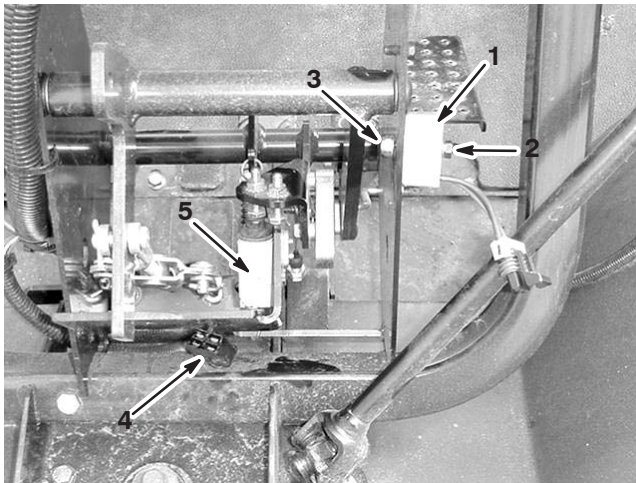

Figure 1
1. Secure the key start module to the pedal assembly frame using a bolt (1/4 x 1-3/8 inch) and flange nut (1/4 inch) as shown in Figure 1.